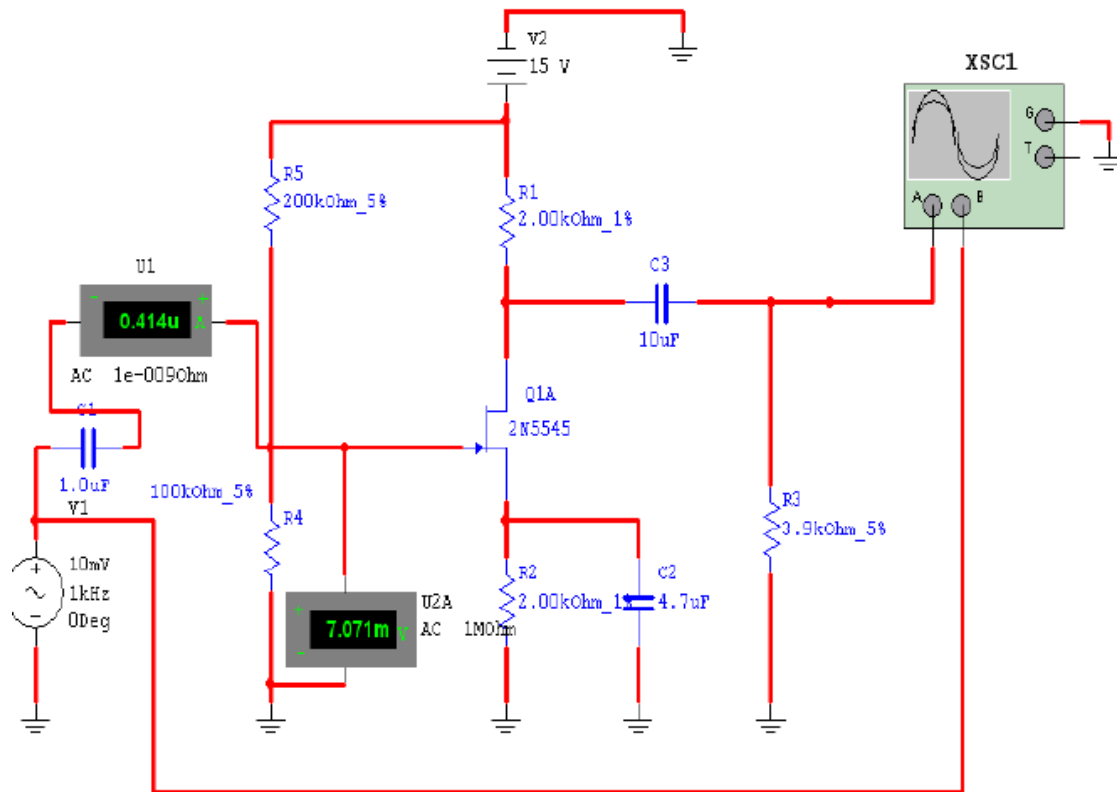

Fig.11 CS amplifier connected to measure Z_{in}
- Connect an AC ammeter to measure I_{in} ; Fig.11.
- Connect an AC voltmeter to measure V_{in} ; Fig.11.